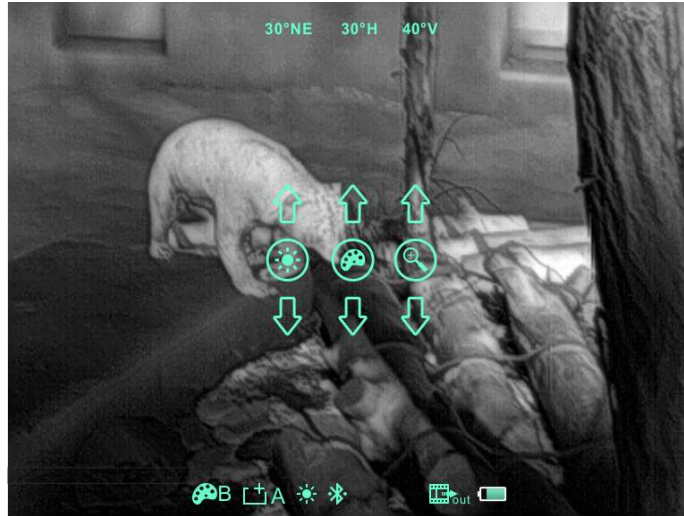

Figure 6-1 Shortcut Menu
In the normal display mode, short press **M (13)** button to switch the order of "no menu - screen brightness - image mode - electronic zoom - exit shortcut menu", and by pressing **Power (12)** button and the **C (14)** key to adjust the parameters of each function. Shortcut menu interface is as shown in figure 6-1.